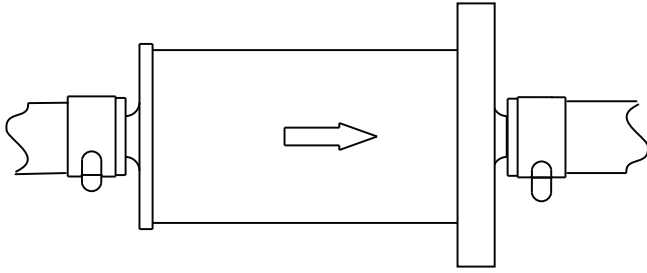

Figure 5-4 Point Arrow in Direction of Fuel Flow.
1. With the arrow pointing in the direction of fuel flow, install **new** fuel filter between fuel inlet and outlet hoses. See Figure 5-4.